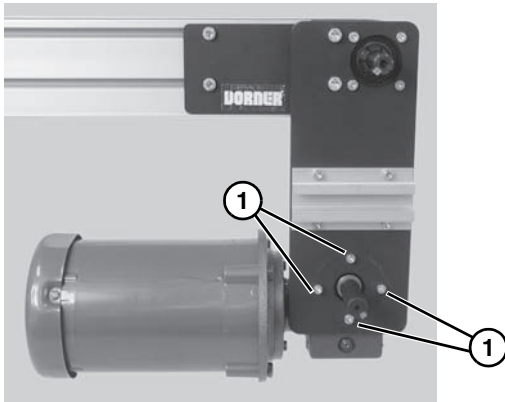

Figure 19
6. Remove four (4) gear reducer mounting screws (**Figure 19, item 1**). Remove gearmotor.
12. Install gearmotor to mounting bracket and tighten screws (**Figure 19, item 1**) to 110 in-lb (12 Nm).